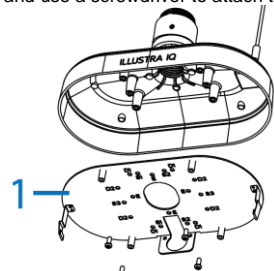

Figure 7
- Hold the adaptor plate (1) (Figure 7) up to the pendant cap, insert the cables through the hole on the adaptor plate, align the four holes on both, and then insert the four screws and use a screwdriver to attach the plate to the cap.